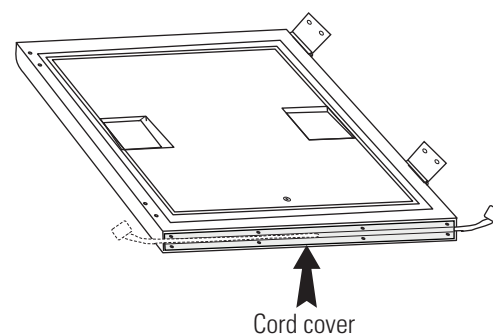

Figure 5-6. Cord Cover Location
7. Locate the cord cover on the bottom of the outer door. See Figure 5-6. Remove the eight screws securing the cover, arrange the cord toward the opposite side and reinstall the cover.